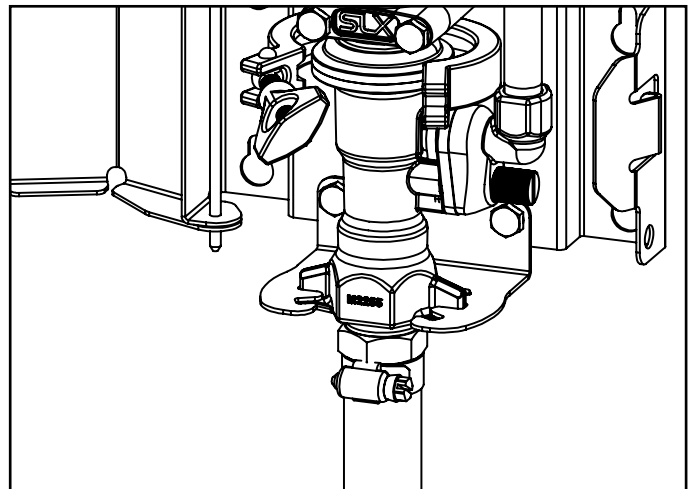

Fig. 7.2: Polypropylene lower support bracket
- **For Polypropylene Models:** Twist the lower foamer body and align the winglets to release it from the support bracket. [Fig 7.2]